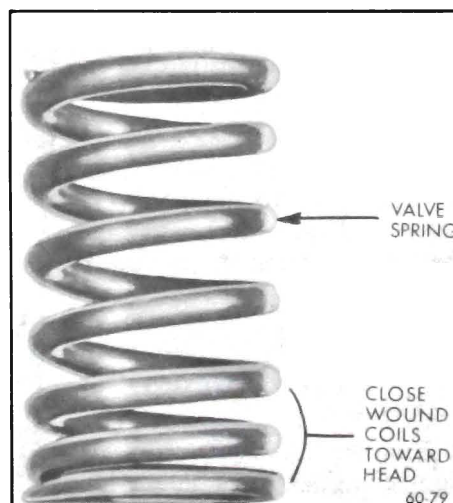

Figure 60-217 Valve Spring (350 cu.in.)
14. Install valve spring on the 350 Cu. In. with closely wound coil toward the cylinder head. See Figure 60-217.